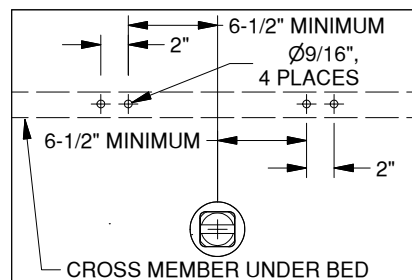
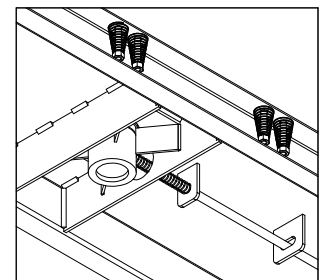

Figure 8
Figure 9
5. **Install the U-Bolts.** When installing the safety chain loops place them slightly ahead of the socket assembly and a minimum of 6 1/2" from the center of the socket assembly, to each side. (Placing them in the truck bed cross member in front of the socket assembly would be ideal.) Two 9/16" holes on 2" centers will be needed on each side of the socket assembly to install the safety chain loops, see Figure 8. Drop the safety chain loops through each pair of holes. Place a spring and lock nut on each of the four legs. Tighten the lock nuts until they are flush with the bottom of the U-bolt, see Figure 9.